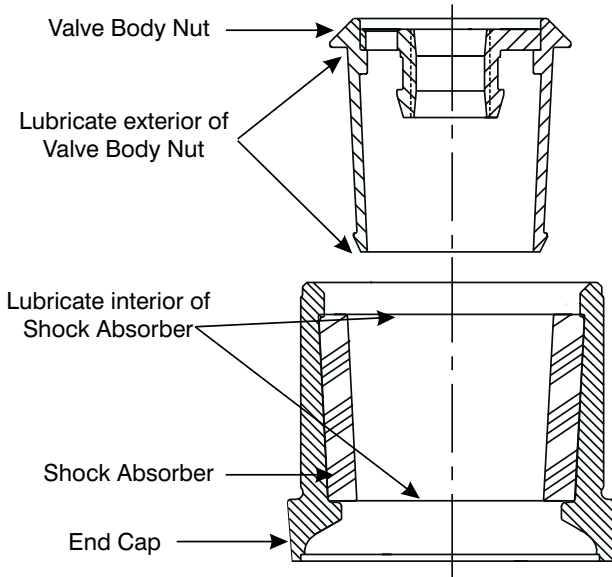

Figure 9-3. Valve Body Nut and Shock Absorber in Press
10. Before installing the Valve Body Nut (12), refer to Figure 9-3 and lubricate:
- the outer surface of the Valve Body Nut (12).
- the inner surface of the Shock Absorber (11).
11. Position the End Cap (10) in an arbor press with the threaded end up as shown in Figure 9-3.
12. Center the Valve Body Nut (12) over the shock absorber as shown in Figure 9-3.